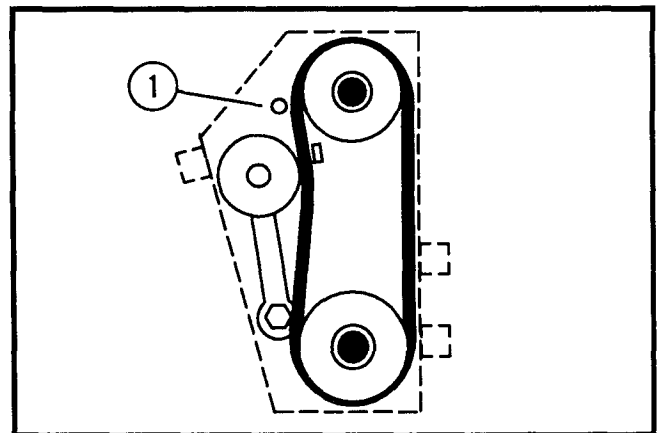

Figure 6. Belt Guard Installation
5. Reinstall the belt guards. The belt stop rod should be outside the belts as shown in Figure 6.